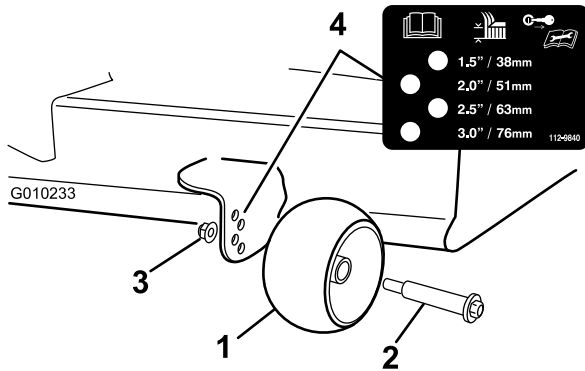

Figure 19
3. Adjust the anti-scalp rollers (Figure 19) to match the closest height-of-cut position.